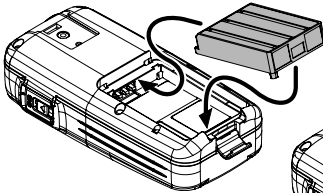

FIGURE 2
- ❑ Turn over the **FBA-44** Battery Case, then insert the **FBA-44** Battery Case into the Battery Compartment, by a same manner of the installation of the **SBR-27LI** (Figure 2).